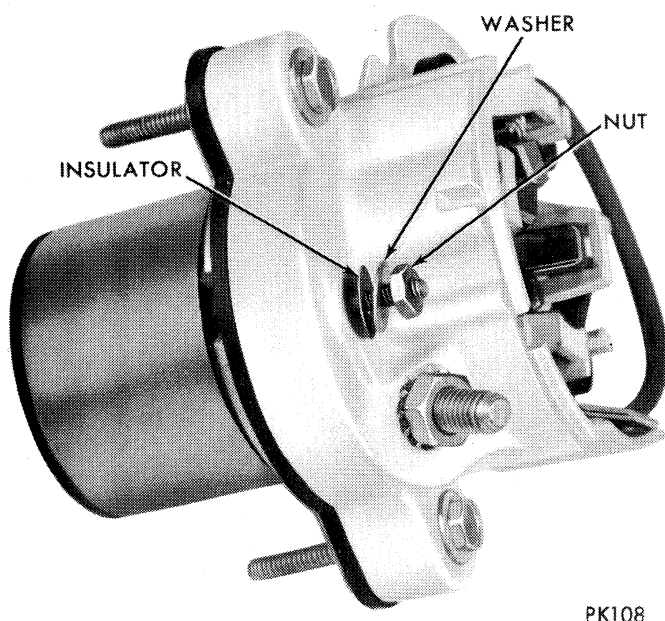

Fig. 11—Removing Nuts and Washers from Solenoid Terminal
(8) Remove nut, steelwasher, and sealing washer from solenoid terminal, (Fig. 11).